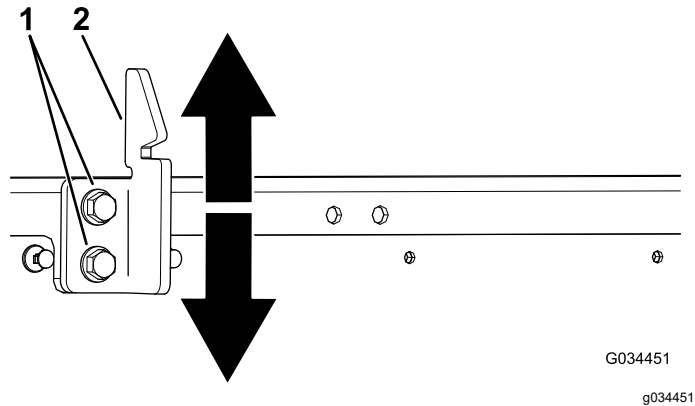

Figure 9
4. Loosen the 2 bolts on the bed-latch striker and move the striker up or down, depending on if the striker is too high or too low (Figure 9).
5. Tighten the 2 bolts on the bed-latch striker (Figure 9).